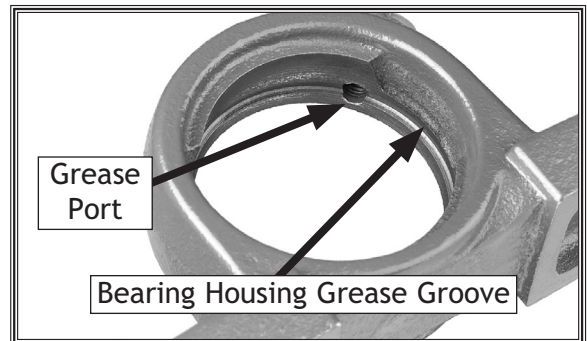

Figure 45. Typical bearing-block grease groove and grease port.
7. Remove any metal or abrasives trapped in the bearing grease groove and grease port (see **Figure 45**), or contaminants will be pumped into the new bearing when you lubricate it, causing bearing failure.